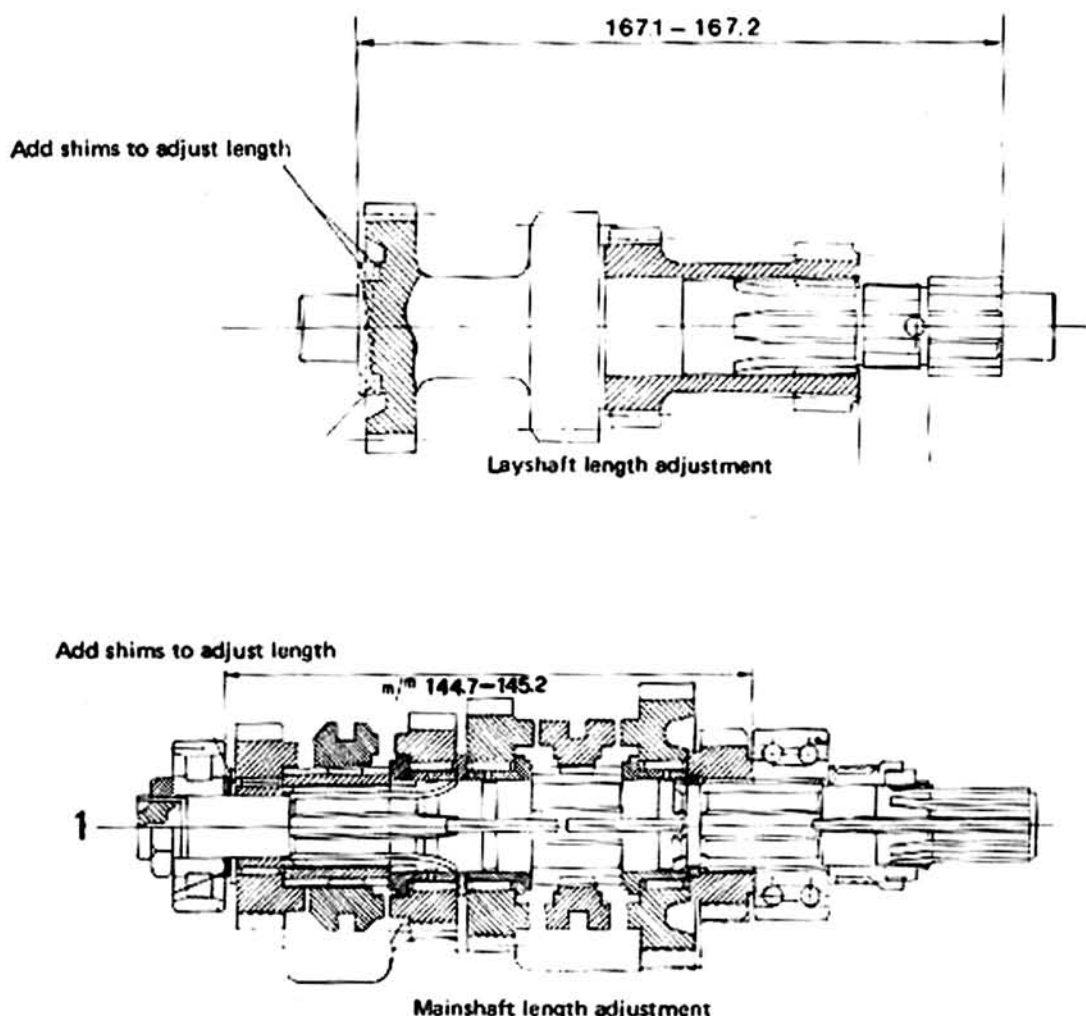

Fig. 2.3. Layshaft adjusted length and mainshaft adjusted length
shown in Fig. 2.3. When taking this measurement a special bronze washer should be fitted in place of the thrust bearing and the two thrust washers which lie either side. This is to give the correct final bearing running clearance. If the distance is incorrect, place shims between the thrust bearing outer washer and the end washer. Both the special bronze washer and shims are available, especially to carry out the operation.
- 3 A similar procedure should be adopted when refitting the gear pinion assemblies to the mainshaft. The overall length of the completed assembly, measured between the two points shown in Fig. 2.3 should be 144.7 - 145.2 mm (5.6920 - 5.7150 in). Insert additional shims between the mainshaft 4th gear pinion and the inner face of the roller bearing. When replacing the mainshaft end nut, which secures the roller bearing, apply locking fluid to the threads. If locking fluid is not available, bend in a portion of the nut shoulder so that it engages with the short axial channel in the threaded portion.